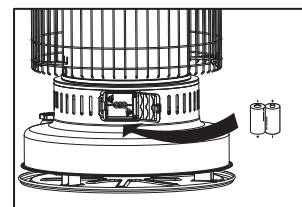

Fig.8
F) INSTALLING BATTERIES: (Fig.8)